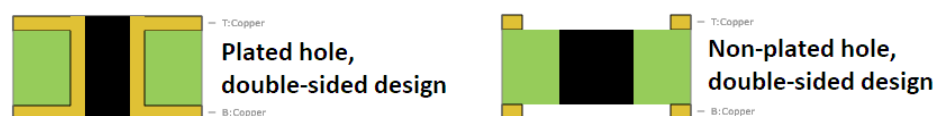

Figure 44
- Board topology** The board topology can only be displayed when there are less than 12 copper layers. Most designs generally have all unused layers defined as copper layers, so there are too many to display. (This can be changed from the *Configuration* folder, select *Layer Assignments and Ordering*, then select the *Set empty copper layers to silkscreen* button.) The topology of a double-sided design with a through-plated and non-plated through hole is shown in Figure 44.